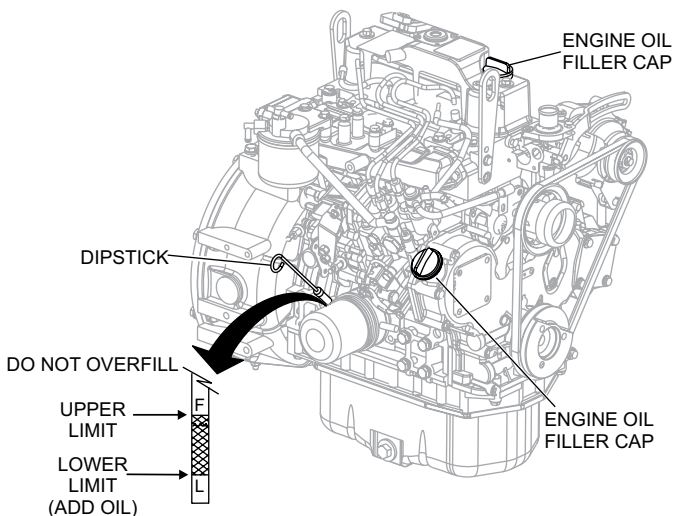

Figure 6. Engine Oil Dipstick
2. Pull the engine oil dipstick (Figure 6) from its holder.